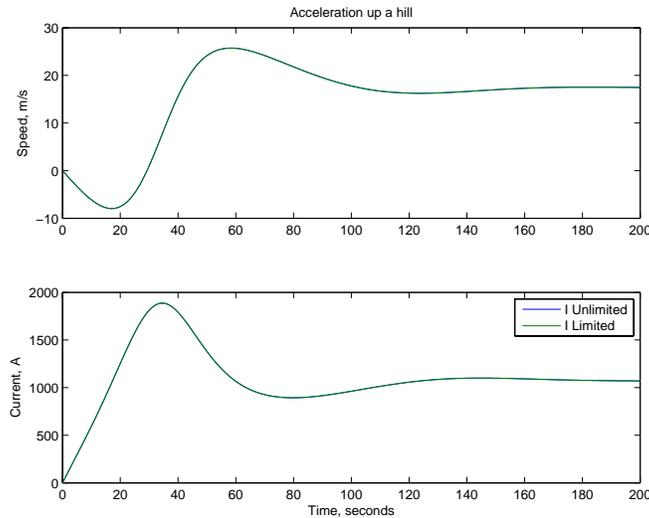

Figure 4: Simulation of Trolley Car Transient
5. Simulation of acceleration of the car up a hill is set up in the attached script. The results are shown in Figure 4. Note that the 2,000 A current limit is not reached. As an idiot check, see that to climb a 4° grade, the force required is:
and the simulation of Figure 4 seems to settle out to about that level.